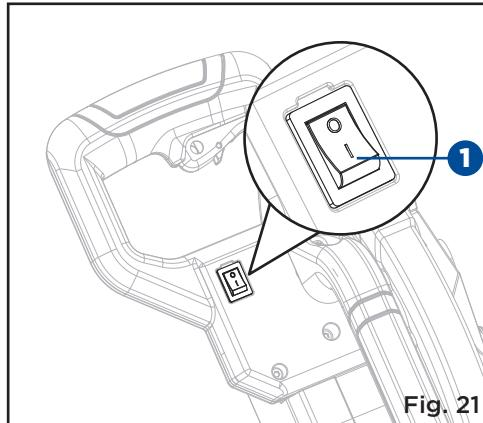

Fig. 21
USE OF PRECISION BLADE GUIDE SYSTEM ON/OFF SWITCH (FIG. 21)
The precision blade guide system is equipped with an ON/OFF switch (1) (Fig. 21). The precision blade guide system is independent of the mitre saw's trigger switch.